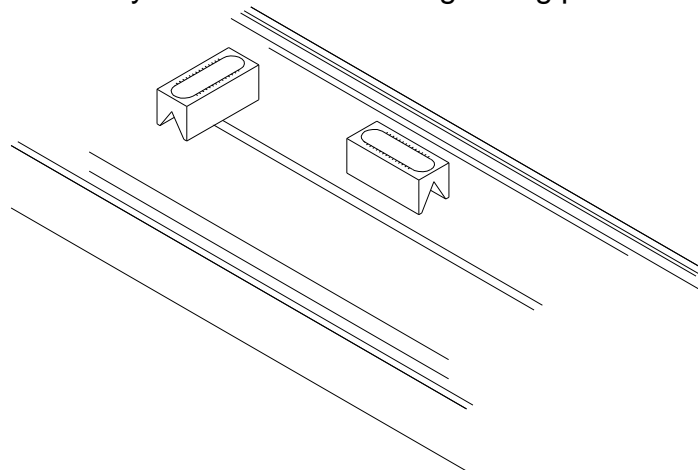

Fig. 2.6
4. Place the level in the middle of table (Fig2.6) and adjust the leveling screws to position of "ZERO" point, then move the table to both extreme left hand and right hand side in order to gain the tolerance value. If the tolerance value within 0.02 mm indicate that the leveling is set properly.